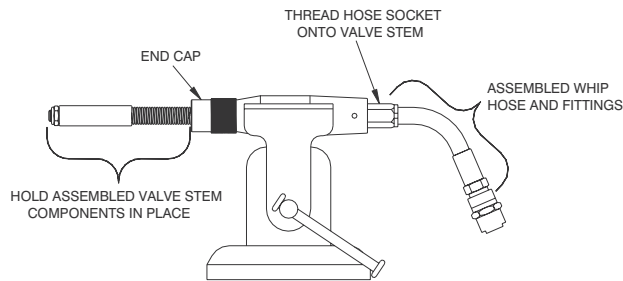

Figure 9-31. Hose Socket on Valve Stem.
5. Thread the Hose Socket (17) with the Whip Hose (18) onto the Valve Stem (11). Hand tighten the Hose Socket to the Valve Stem. Refer to Figure 9-31.